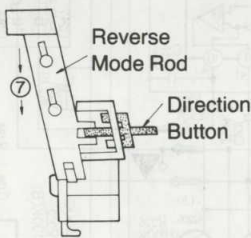

Fig. 9
2. Install the reverse mode rod on the A/R chassis as shown in Fig. 9.
3. Slide the reverse mode rod in the direction indicated by the arrows ⑦.
4. Install the direction button on the A/R chassis by inserting its tabs as shown in Fig. 9.